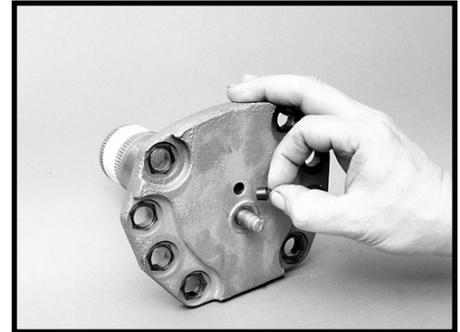

Figure 146
- 40. Assemble the vent plug (57) into the hole provided on the side cover (56). Press the vent plug in flush with the side cover. SEE FIGURE 146.